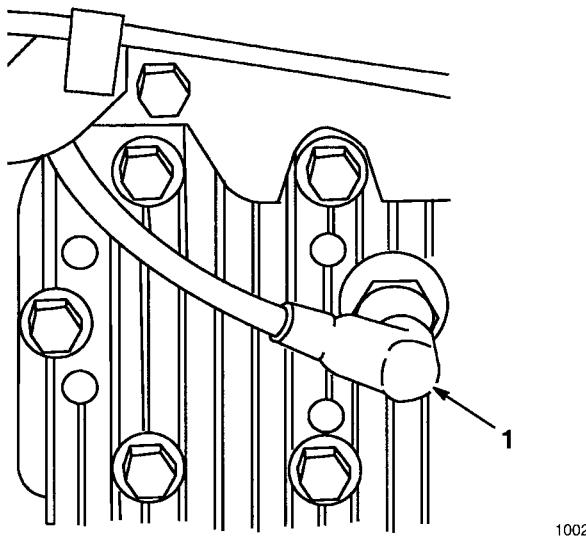

Figure 7
1. Pull wire off spark plug (Fig. 7).
5. Connect spark plug wire (if disconnected) (Fig. 7).